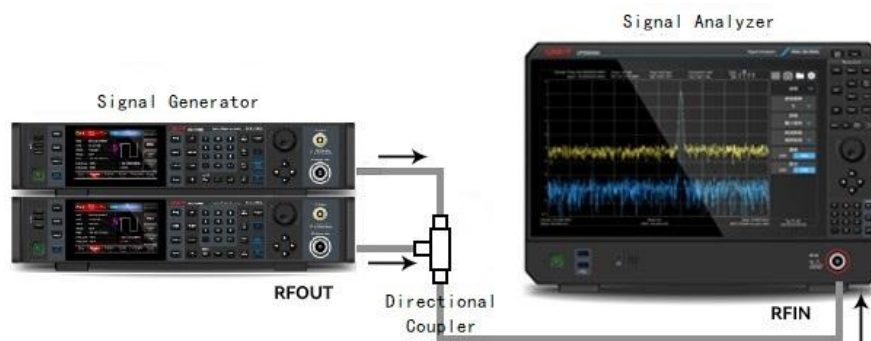

Figure 3-4 Instrument Setting for Acquiring Two-channel's Signal
1. As shown in Figure 3-4, connecting two signal sources to the RF IN port of the signal analyzer via a directional coupler.
1. As shown in Figure 3-4, connecting two signal sources to the input port of the signal analyzer.